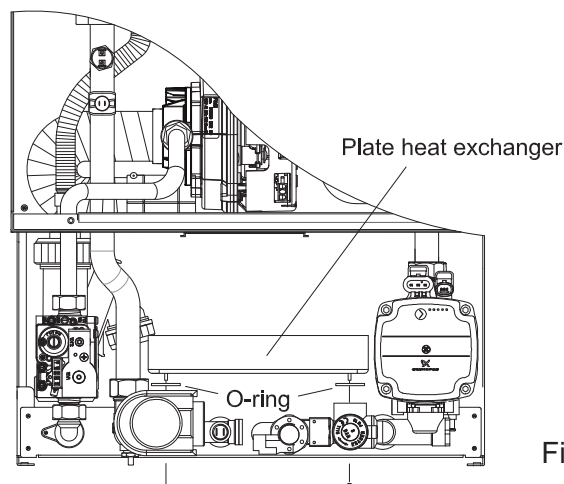

Fig.45
8.11 TO REMOVE/REPLACE THE WATER PRESSURE TRANSDUCER (Fig. 45)